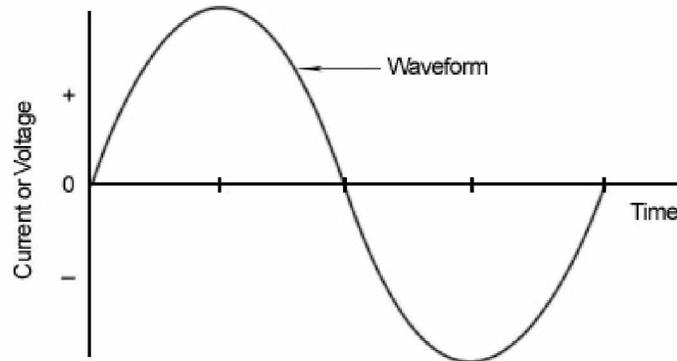
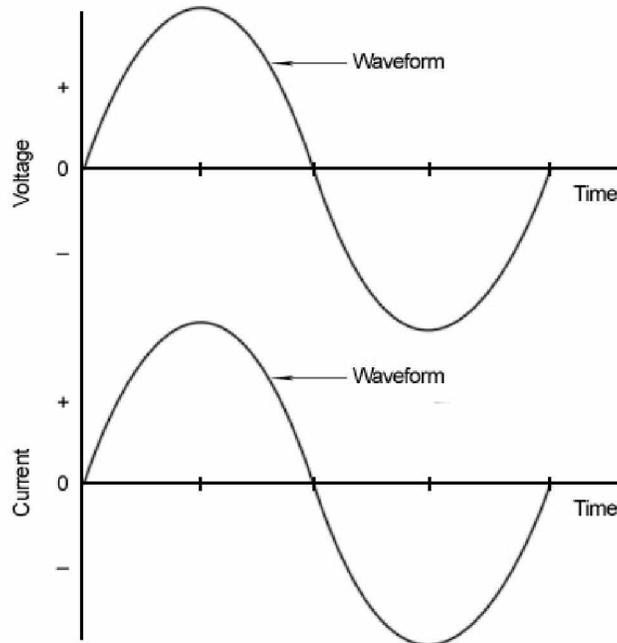

Fig. 2: AC Waveform
Fig. 3: In Phase Voltage and Current Signals
The voltage and current of an AC circuit are sinusoidal in nature (see Fig. 2). This means that the amplitude of the current and voltage of an AC circuit will constantly change over time. Since power is voltage times current ($P = V * I$), power is maximized when the voltage and current are “lined up” with one another. The peaks and zero points on the waveform for voltage and current occur at the same time (fig 3). When this happens, the two signals are said to be “in phase” with one another. Two waveforms are said to be “out of phase” or “phase shifted” when the two signals do not match up from point to point. So when are the voltage and current in phase? What causes them to shift so that they would be out of phase? This has to do with the circuit components involved in the system. Due to the behavior of voltage and current in AC circuits, power is a quantity that comes in several different flavors.
The three main circuit components are the resistor, the capacitor and the inductor. Each component has a different effect on the phase shift between voltage and current. A resistor causes no shift between current and voltage (a zero degree shift – shown in fig. 3). Power that is the result of a purely resistive load is known as “true” power. It is the power that performs work in the circuit and it is measured in Watts (W). This is the power that will drive a circuit board or a motor. It is the desired outcome of an electrical system.